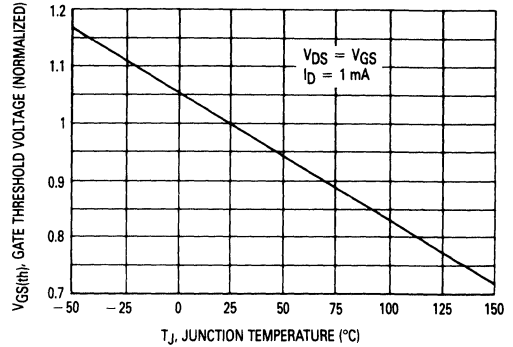

FIGURE 3-4 — GATE-THRESHOLD VOLTAGE VARIATION WITH TEMPERATURE
- Negative temperature coefficient of about -6.7 mV/°C (Figure 3-4).